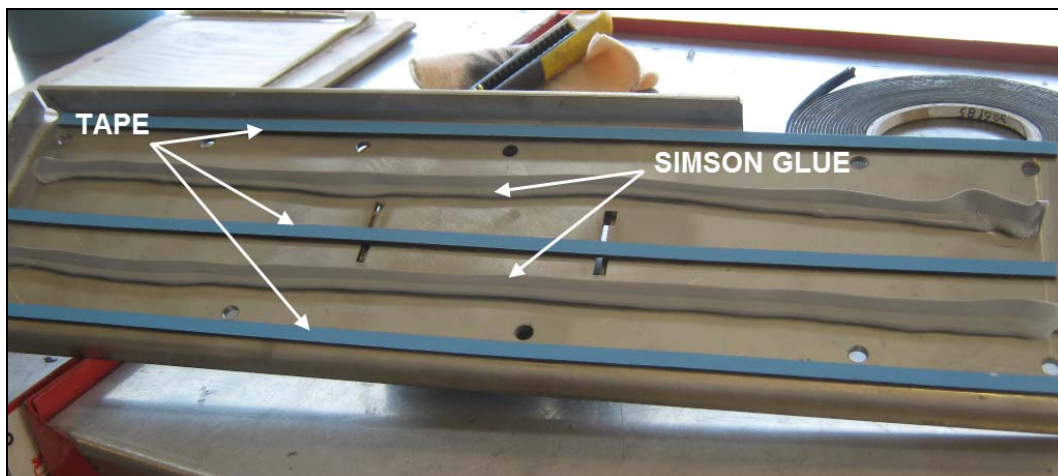

FIGURE 1: SUPPORT #041075
- 6) Apply three (3) strips of double face self-adhesive tape #506785 onto support #041075 as shown on figure 1.
- 7) Apply two (2) triangular shaped Δ ($5/16"$ ↔ x $3/8"$ ↓) beads of Simson glue #684517. Cut the applicator tip in order to obtain the proper shape and dimensions (figure 1).